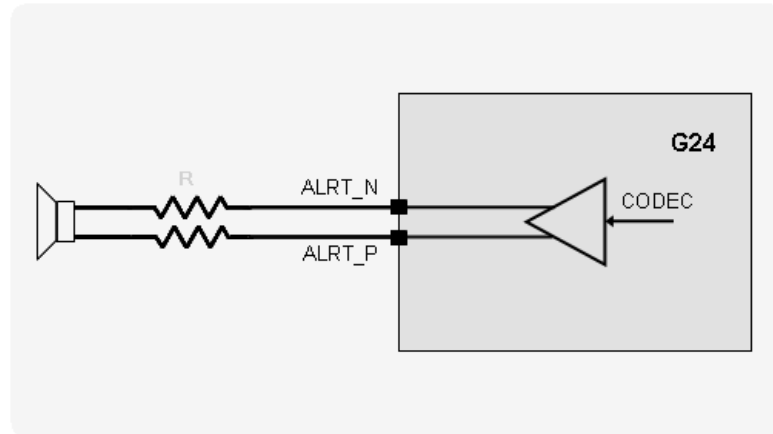

Figure 2-21: Differential Loudspeaker Circuit
Figure 2-21 shows the alert loudspeaker circuit and Table 2-9 gives the loudspeaker specifications.
**Important:** For safety regulations it is important to place series resistors on the alert output lines, as illustrated in Figure 2-21. The resistors value should be  $R = 0\Omega$  at the design stage, but may be changed to a different value during audio safety testing, in case attenuation in the alert gain is required.